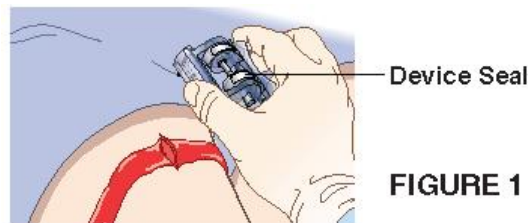

FIGURE 1
3. Remove the device from the package by lifting up, taking care not to close the device until it has been applied to the wound. **NOTE: Device seal will hold device open until broken (See Fig. 1).**
5. Locate the wound edges (**See Fig. 1**).